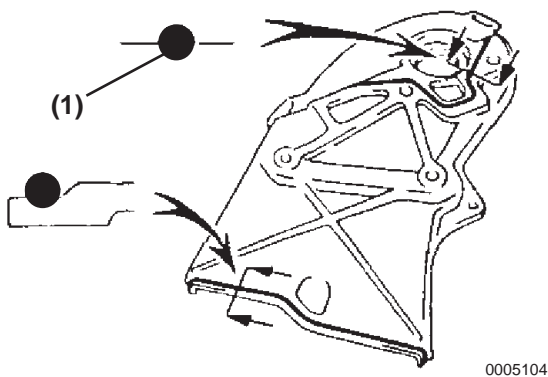

Figure 5-74
2. Apply seal packing to the oil seal retainer as shown in **Figure 5-74**.
- Use a nozzle cut to a sealing width of 2 to 3 mm (0.078 to 0.118 in.) (**Figure 5-74, (1)**).